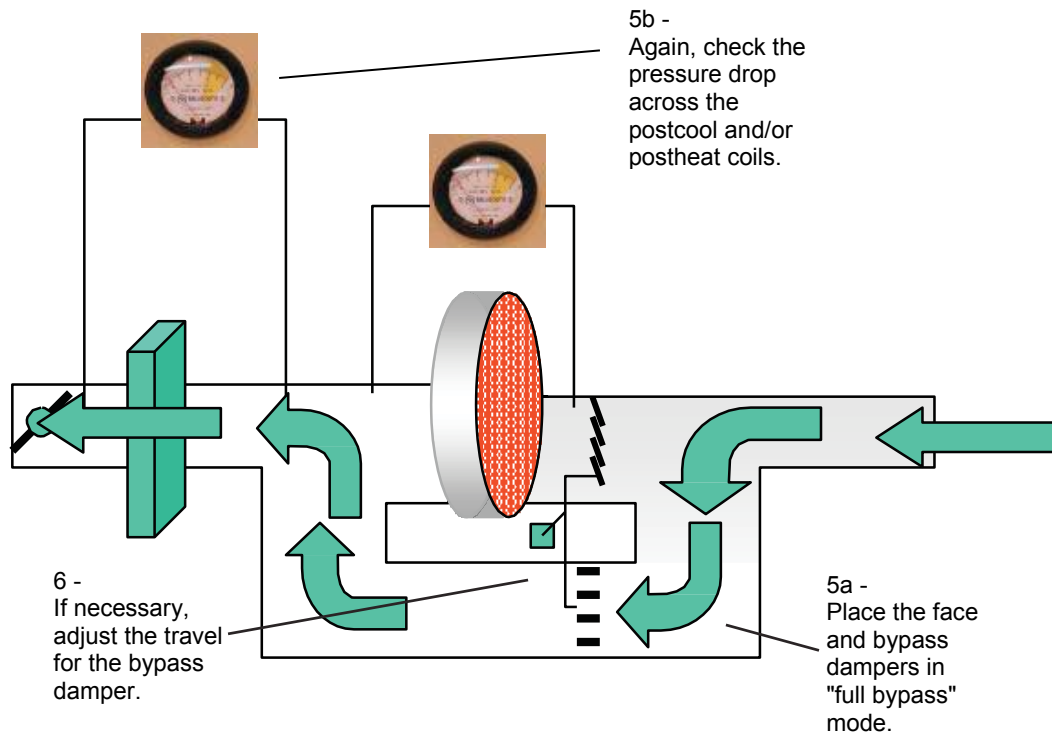

Figure 5-9
5. Place the face and bypass dampers in the "full bypass" positions. See Figure 5-9. Again, check the pressure drop across the postcool and/or postheat coils. It should match the reading taken in the last step. If it does not, the travel of the bypass damper must be adjusted.